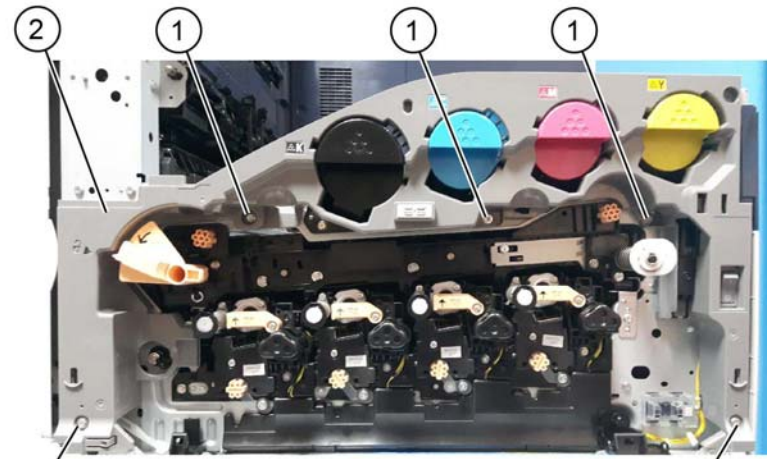

Figure 1 Inner cover removal
6. Remove the inner cover, Figure 1:
- a. Remove the screws (1).
- b. Remove the inner cover (2).